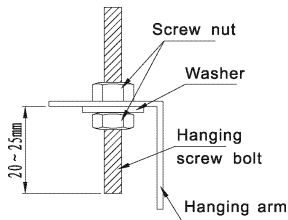

Fig15
- Locate the hanging arm on the hanging screw bolt(Refer to Fig15)